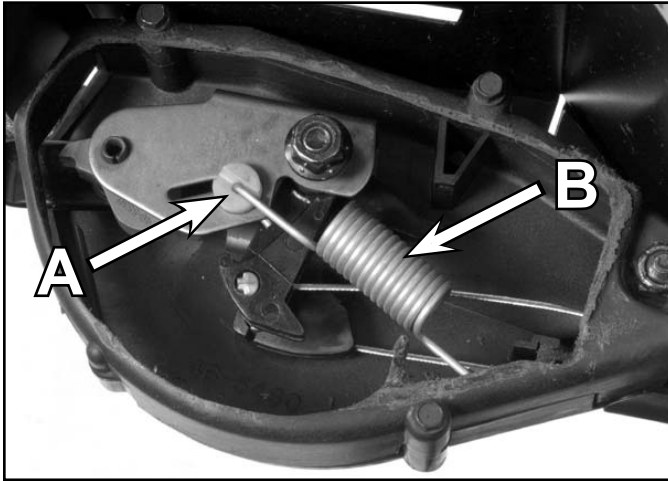

Fig 158
8. Slip the white nylon washer onto the J end of the buckling spring. The slotted side of the washer should face away from the end of the spring. Slip the spring into position in the rocker arm and the left control housing as shown in Figure 158.